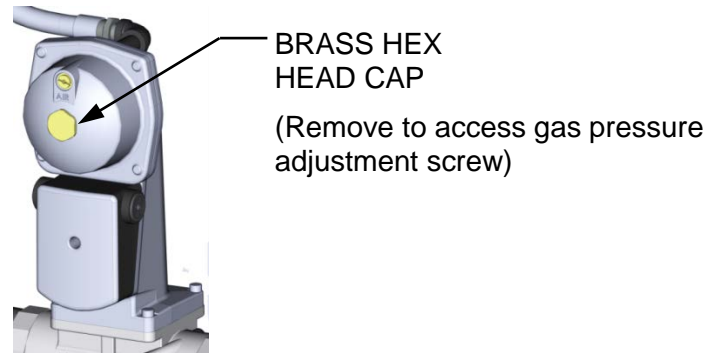

Figure 4-4. Gas Pressure Adjustment Screw Location
13. Check that the gas pressure downstream of the SSOV is within the range listed below. If gas pressure adjustment is required, remove the brass hex nut on the SSOV actuator (see Figure 4-4) to access the gas pressure adjustment screw. Slowly rotate the screw, in approximately 1/4-turn increments, clockwise to reduce the oxygen level or counterclockwise to increase the oxygen level, as needed, to reach the value listed below. Allow the combustion analyzer to stabilize following each adjustment.
11. Check that the gas pressure downstream of the SSOV is within the range listed below. If gas pressure adjustment is required, remove the brass hex nut on the SSOV actuator (see Figure 4-4 in the previous section) to access the gas pressure adjustment screw. Slowly rotate the screw clockwise, in approximately 1/4-turn increments, to reduce the oxygen level, or counterclockwise to increase the oxygen level, as needed, to reach the value listed below. Allow the combustion analyzer to stabilize following each adjustment.